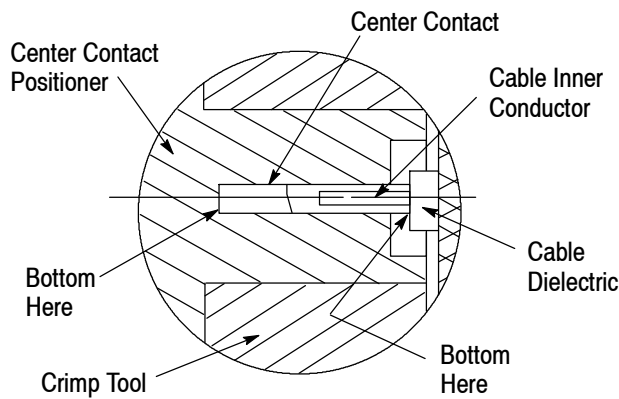

Figure 4
3.2. Crimping of Center Contact to Cable Inner Conductor (Figure 4)